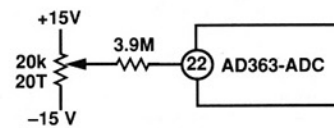
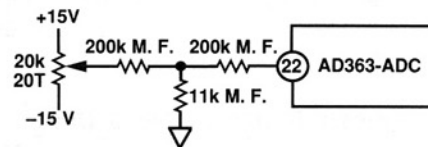

Figure 9a.
Figure 9b.
**Offset Adjust, AD363-ADC:** The simplest offset adjust circuit requires a 20-turn, 20 k $\Omega$  cermet potentiometer and a 3.9 M $\Omega$  resistor as shown in Figure 9a. This arrangement has an adjustment range of  $\pm 8$  LSBs, and will contribute a maximum of 2.3 ppm/ $^{\circ}\text{C}$  offset drift with a carbon composition fixed resistor ( $\text{TC} = -1200$  ppm/ $^{\circ}\text{C}$ ). Drift contributions from the offset adjust circuit can be reduced well below this level using metal-film resistors and the circuit of Figure 9b.